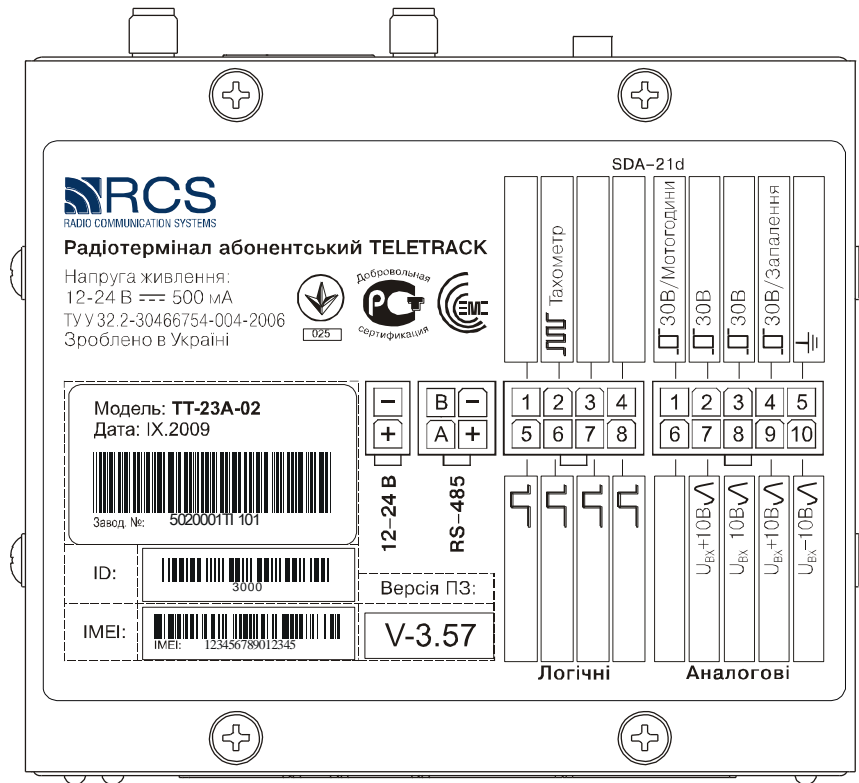

Fig. 4. Marking of radio terminal Teletrack body.
- Bare end wires connect to the terminals of the main sources of power, observing the polarity indicated in Fig. 4, and guided by the following rule:
Fig. 4 shows an example of marking of the body with indication of the purpose of power contacts and module of sensors.